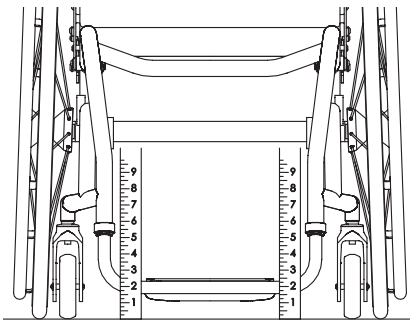

Figure 3
3. Place the end of a ruler on the floor and hold it vertically against the left corner of the footrest. Adjust the left side of the footrest (or the new footrest) to the desired height (not less than 2" of ground clearance) and loosely tighten the Allen Screw in the left binder clamp so the left side of the footrest cannot change. See Figure 3.
5. When both sides are set at an equal distance from the floor, make sure all four (4) wheels are in contact with the floor and then fully tighten the two Allen Screws in the binder clamps that secure the footrest to the wheelchair frame.
3. Place the end of a ruler on the floor and hold it vertically against the left corner of the footrest. See Figure 3. Adjust the left side of the footrest (or the new footrest) to the desired height (not less than 2" of ground clearance) and tighten the Allen Screw in the left binder clamp so the left side of the footrest cannot change.